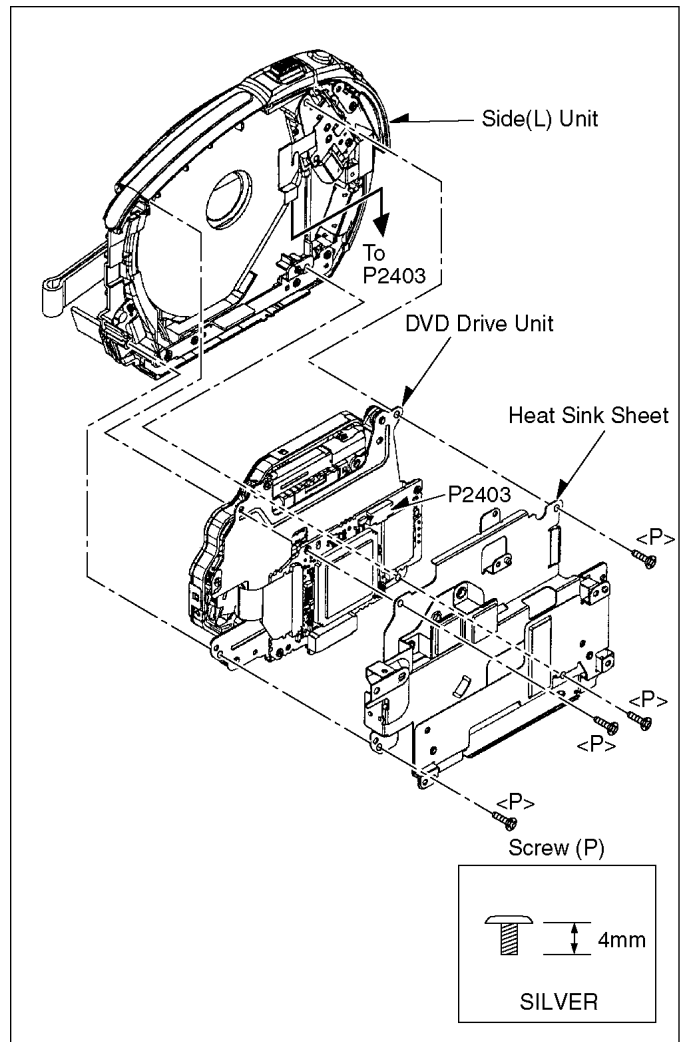

Fig. D11
| | | Fig. D11 | 1-Connector P2403 4-Screws (P) Heat sink sheet DVD Drive Unit Side(L) Unit |